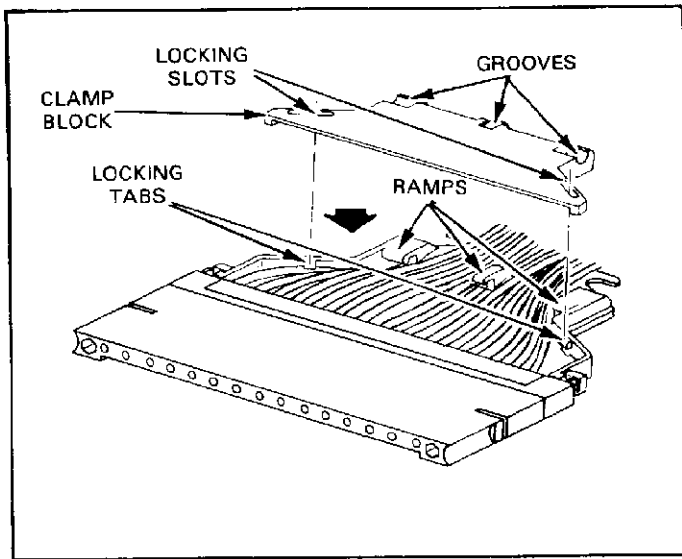

Fig. 6
6. Position the clamp block over the strain relief hood (assembled to the plug module) and snap it into place, making sure the wires are properly dressed. The grooves of the clamp block must fit under the ramps of the hood. See Figure 6.